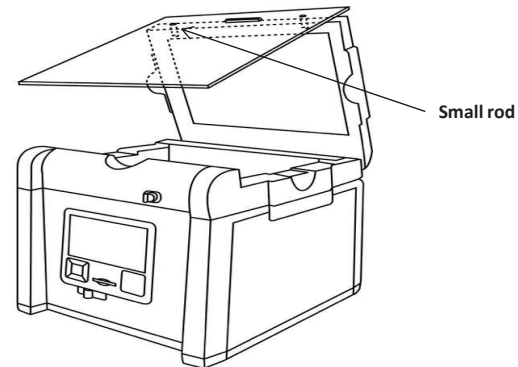

Figure 9
4. Place the amber filter board onto the filter board hanging tab so the filter board may hang as shown in Figure 9.